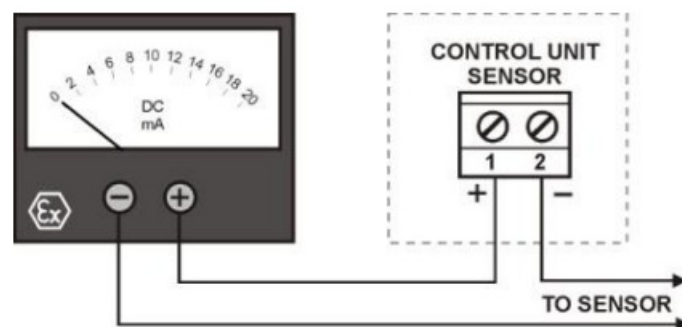

Fig. 5. Measuring the sensor current
3. If the sensor supply voltage is correct, connect mA-gauge to the sensor circuit according to the Fig. 5 by disconnecting wire nr. 1 from the control unit.